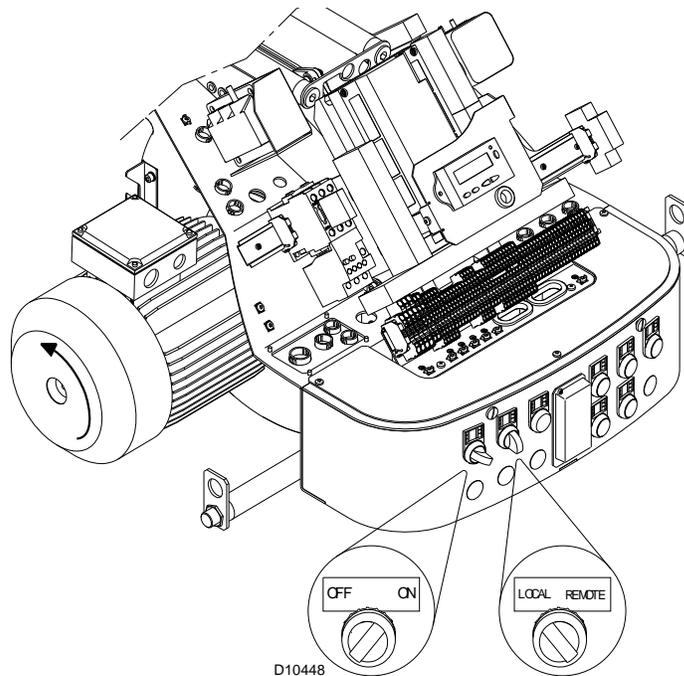

Fig. 33
Turn the switch of Fig. 33 to position “ON” and turn the switch of Fig. 33 to position “LOCAL”.
Make sure that the lamps or testers connected to the solenoids, or indicator lights on the solenoids themselves, show that no voltage is present. If voltage is present, stop the burner **immediately** and check the electrical wiring. When the burner starts, check the direction of the motor rotation, as indicated in Fig. 33.
As the burner is not fitted with a device to check the sequence of the phases, the motor rotation may be incorrect. As soon as the burner starts up, go in front of the cooling fan of the fan motor and check it is rotating anticlockwise. See Fig. 33.
- place the switch of Fig. 33 in position “0” and wait for the control box to carry out the switch-off phase;